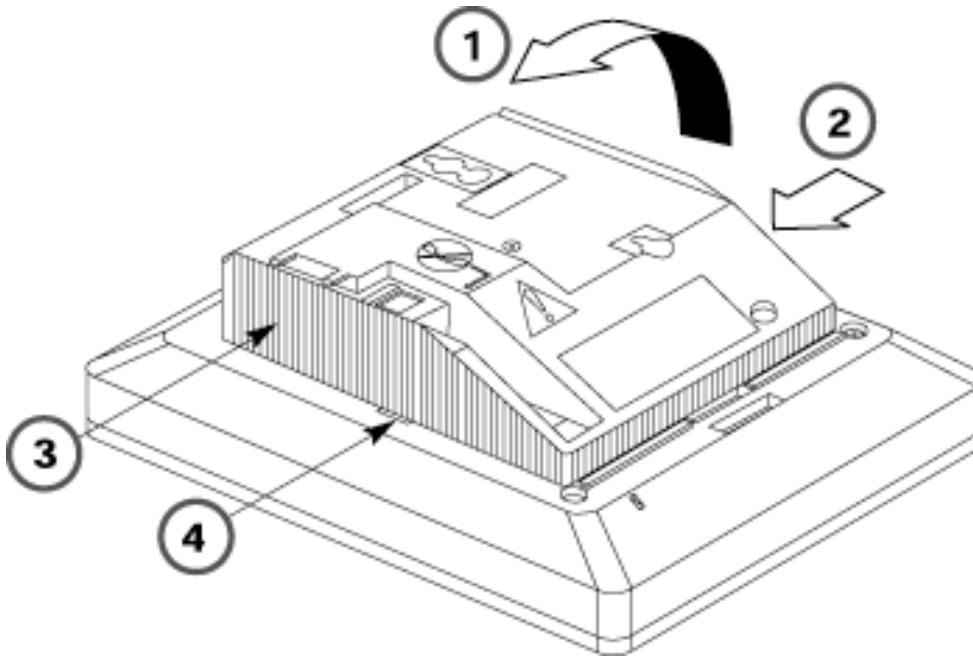

Figure 3-32. Releasing the Module Cover
3. Swing open the module cover to release it from the left side locating slot. See Figure 3-32.